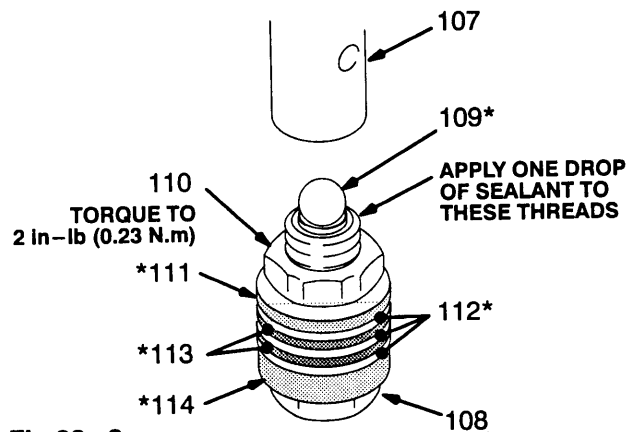

Fig 22-2
1. Check the outside of the piston rod (107) and the inside of the cylinder (115) for wear. Replace worn parts to ensure a good seal with the new packings.
2. Stack these parts onto the piston valve (108) one at a time: the female gland (114*), alternately three plastic (112*) with two leather packings (113*), and the male gland (111*). See Fig 22-2.
3. Tighten the packing retaining nut (110) onto the piston valve (108) to 2 in-lb (0.23 N.m). See Fig 22-2.
4. Place the ball (109*) on the piston valve (108). See Fig 22-2.